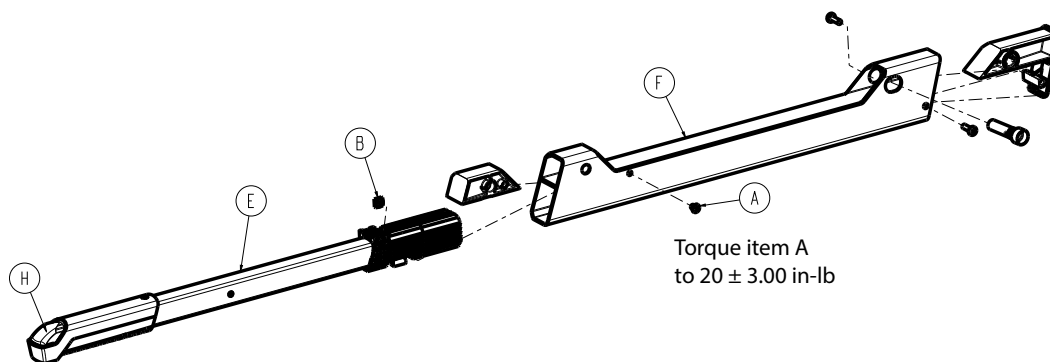

Figure 35 –
2. Using a 1/8" hex driver, remove the button head cap screw (A) that secures the lower handle outer housing (F) to the lower handle slider assembly (E) (Figure 35). Discard the screw.
3. Squeeze the lower handle button (H) to extend and remove the lower handle slider assembly (Figure 35). Discard the lower handle slider assembly.
Note - The square nut (B) may fall out when you remove the lower handle slider assembly (Figure 35). Save the nut for when you reinstall.